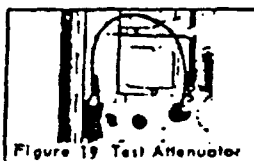

Figure 19 Test Attenuator
3. Flame Signal Attenuator. Directly above the vacuum tubes on the chassis is a recessed pin, which when grounded to the chassis by a clip cord (Fig. 19), will reduce the sensitivity of the flame signal amplifier 40% for test purposes.